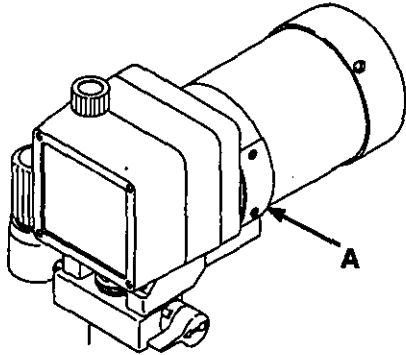

Fig 16
1. Remove both inspection covers (A) and their gaskets. See Fig 16.